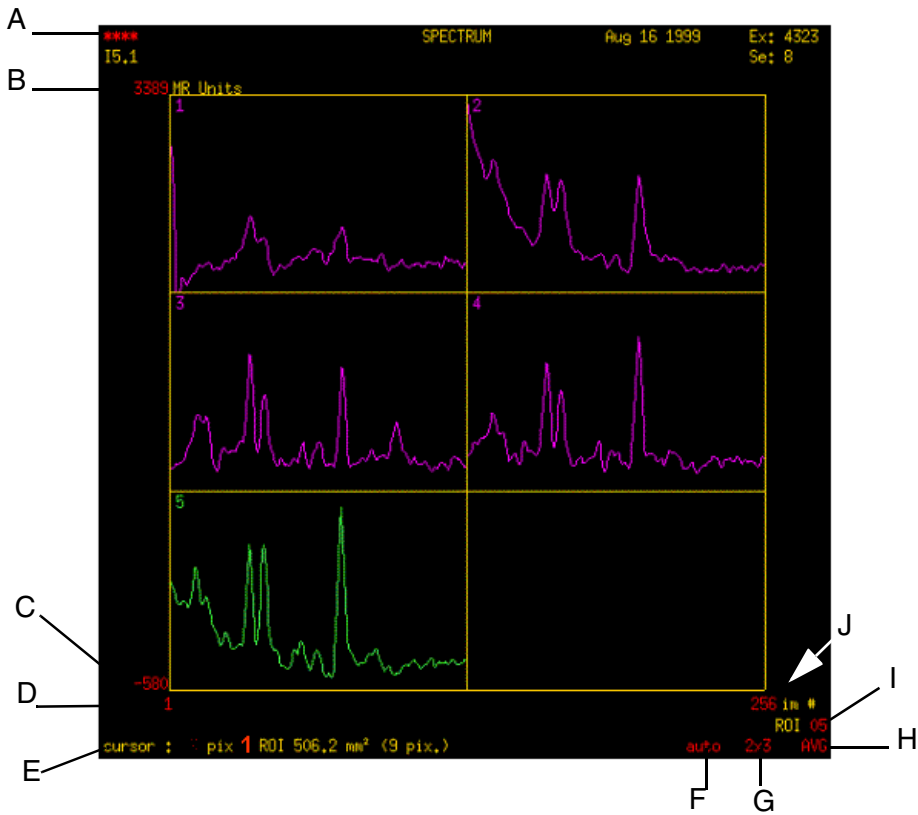
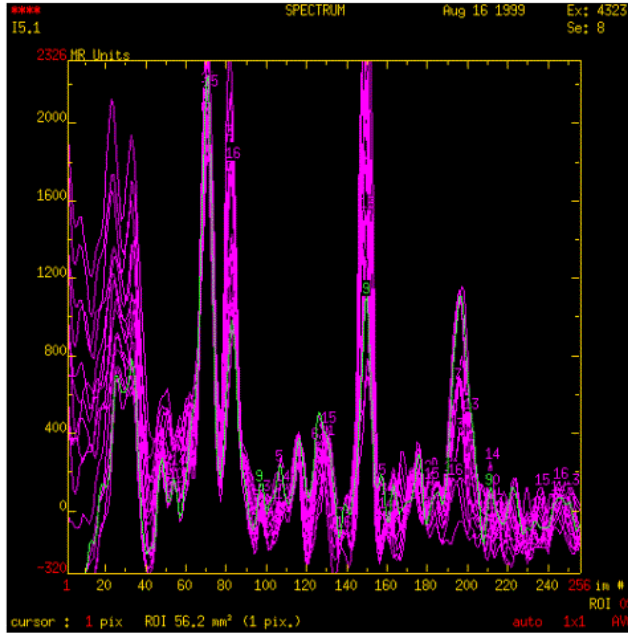

Figure 9: Spectra displayed in the spectral grid viewport.
Figure 10: Superposition of 16 spectra in the spectral grid viewport.
Active annotations: There are ten active annotations in this viewport. In Figure 9, the active annotations, starting at the top left and moving down, are:
- (A) **** – the patient name, which has been hidden in Figure 9.
- (B) 3389 – the current y-axis maximum value, used to scale the spectra.
- (C) -580 – the current y-axis minimum value, used to scale the spectra.
- (D) 1 – the current x-axis starting image, used to zoom the spectra – units are points or rank image as shown in Figure 9, or PPM.
- (E) **cursor: 1 pix** – i.e., the number of pixels averaged to produce the cursor spectrum, and used to determine the extent of the cursor size smoothing region. **Set the value to one to avoid cursor size smoothing.**
- (F) **auto** – click to automatically scale the vertical spectra to the active spectrum (ROI) – pressing the **space bar** has the same effect. Select either an ROI or a specific spectrum in the UR viewport and click **auto**. The other spectra are vertically scaled to the selected ROI or spectrum.
- (G) **2x3** – click to toggle between the display of separate spectra, as shown in Figure 9, or to display the spectra superimposed on one frame, i.e., **1x1** (Figure 10).
- (H) **AVG** – click to toggle between the four spectrum display selections, AVG, MAX, MIN, and DEV (standard deviation) – these selections are explained later in the chapter.
- (I) **ROI 05** – indicates the active spectrum (ROI), click to change the active spectrum, clicking on the word “ROI” deselects the active spectrum (ROI).
- (J) **256 im #** – the current x-axis ending image, used to zoom the spectra – units are points or rank image as shown in Figure 9. If you set x units to PPM (using the shortcut menu, accessed with a right-click), the x (horizontal) scale changes to 4.30 - 0.49 ppm. With the cursor over the active annotation of 0.49, a right click will increase this value and a left click will decrease this value, the range is 0.49 - 4.29 ppm.
Superimposed Spectra or Individual Spectra: In the initial or default display of multiple spectra – the 1x1 active annotation, (Figure 10) the spectra are superimposed on the display. The spectra are scaled to the maximum and the minimum values found in the set of selected spectra or to the last scale selected. Separate spectra, one for each ROI, are displayed in smaller individual frames for an NxN active annotation. In Figure 9, the five spectra are displayed as a 2x3 array, and the active annotation is 2x3.